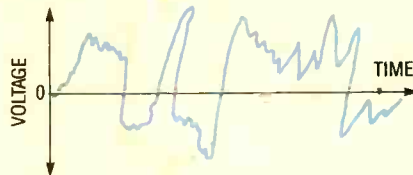

Fig. 1. This is a typical noise waveform in the time domain. It is probably composed of many different waveforms.
Figure 1 shows the block diagram for a common tachometer circuit. The circuit consists of four main sections: an input-signal conditioner, a monostable multivibrator (a "one-shot"), an
Fig. 1. This block diagram of a simple analog tachometer belies how it functions. The input signal is conditioned to become a trigger signal for a one-shot multivibrator whose output is integrated and displayed.
**Noise Terminology.** There are a number of important terms commonly used when discussing electrical noise, so it's a good idea to introduce them before going further. Perhaps the most common phrase is "spectral density." Consider the graph of noise amplitude shown in Fig. 1. If we could examine the makeup of that signal, we would see it consists of a group of waves of various frequencies. Furthermore, these frequency